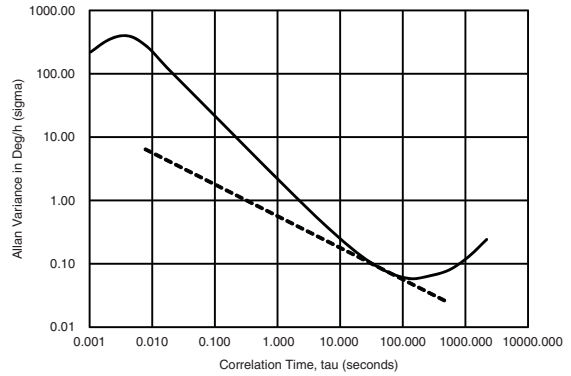

Figure 6.25 Derivation of Angle Random Walk and Bias Instability
Figure 6.25 shows a general Allan Variance graph as a guide for calculating Bias Instability and Angle Random Walk. The Angle Random Walk is calculated as follows:
- The Angle Random Walk is this value, in units of degrees/hour, divided by 60. In the Figure 6.25, the line intercept the 1 second correlation time at 0.57°/h, giving an Angle Random Walk of 0.01°/h.
The Bias Instability is value at the minimum part of the Allan Variance plot, usually between correlation times of 10s and 100s. In the Figure 6.25, the Bias Instability is approximately 0.05°/h.